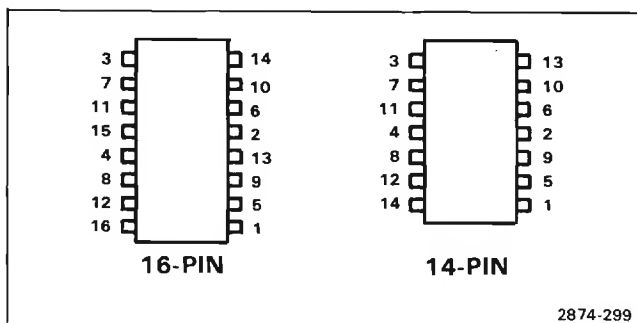

Figure 3-11. Recommended desoldering sequence for multi-pin devices.
*When removing multi-pin components; i.e., IC's do not heat adjacent conductors consecutively (see Fig. 3-11). Allow a moment for the circuit board to cool before proceeding to the next pin.*